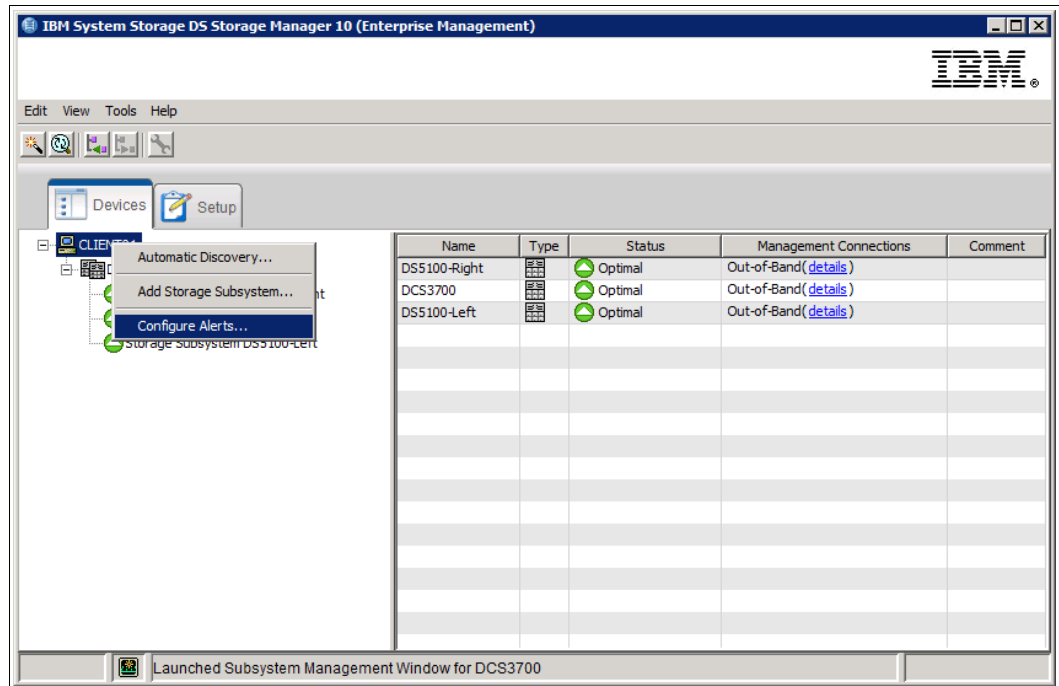

Figure 5-12 Configure Alerts for all systems
- ▶ To configure alerts for all storage systems that are listed in the Enterprise Management window, right-click your local management system in the Enterprise Management window (at the top of the tree) and select **Configure Alerts**, as shown in Figure 5-12 on page 169.